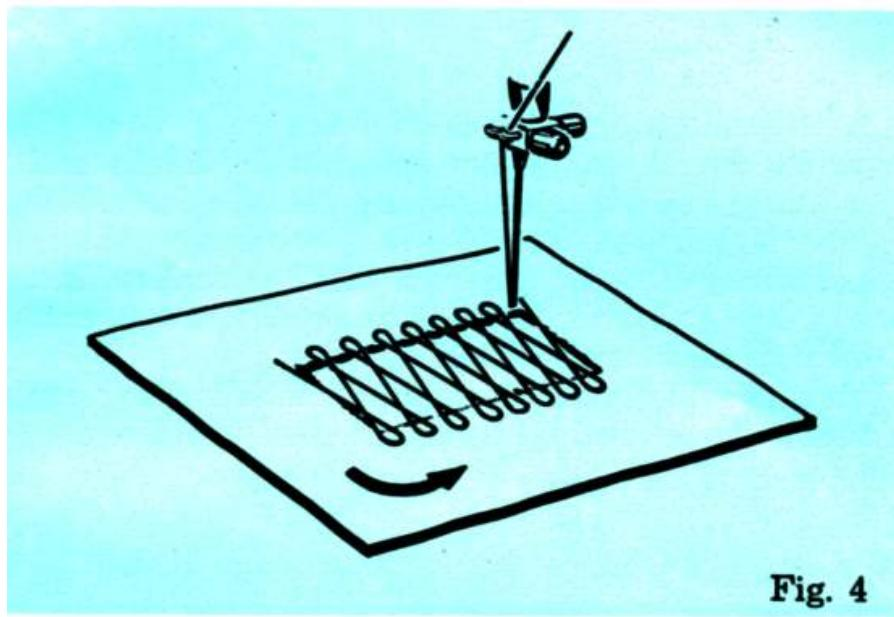

Fig. 4
Fig. 4 shows that by moving fabric as explained above, a design composed of many « 8's » next to one another is formed.
6. Lift presser foot, and using the needle as a pivot, turn the fabric *counter-clockwise* until the needle is at the upper left-hand corner of the portion just darned (Fig. 4).